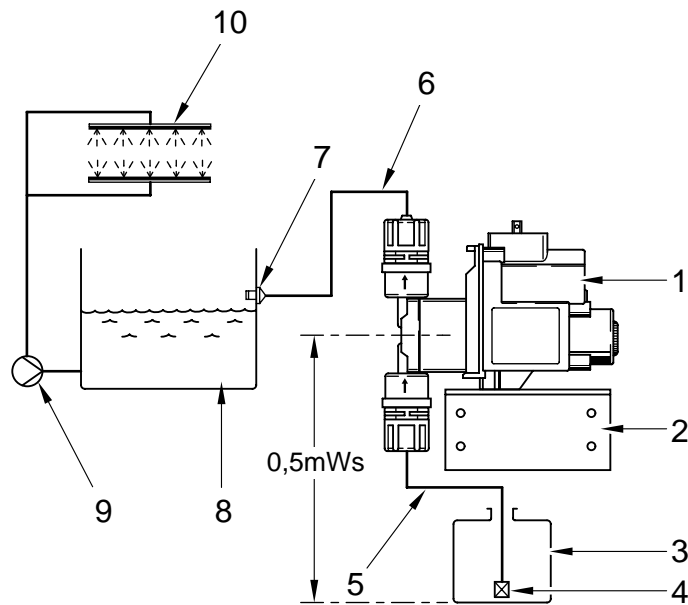

Fig. 2
- Suction head: max. 0.5 mWs (see Fig. 2)
- Pumping head: max. 2 mWs (see Fig. 2)
1. Insert the product feed hose (5, Fig. 2), complete with bottom filter (4) or pick up tube (suction pipe), into the product reservoir.